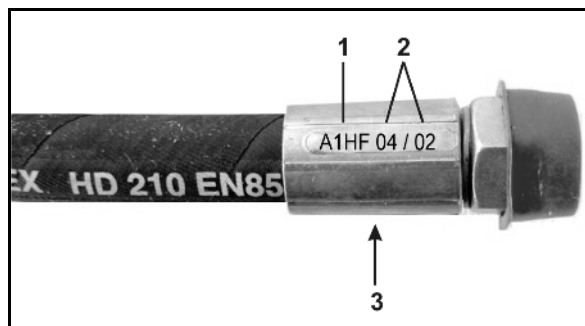

Fig. 55
2. Unscrew the magnetic cap (Fig. 55/1)
3. Remove the solenoid (Fig. 55/2)
4. Unscrew the valve rod (Fig. 55/3) with valve seats and clean with compressed air or hydraulic fluid.